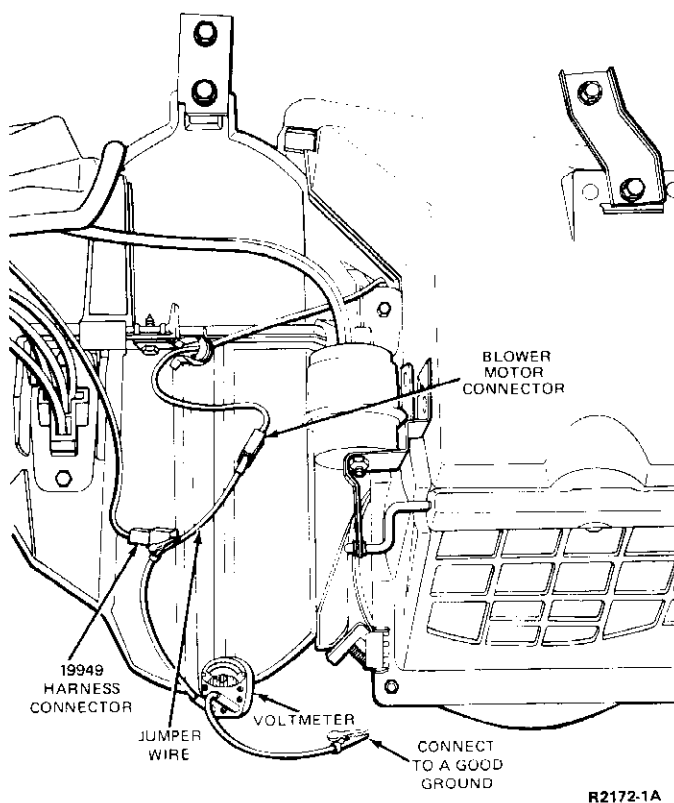

FIG. 21 Blower Motor Voltage Test
3. Connect the positive (+RED) lead of a voltmeter to the female connector of the jumper wire (Fig. 21).
4. Connect the negative (- BLACK) lead of the voltmeter to a good ground (Fig. 21).